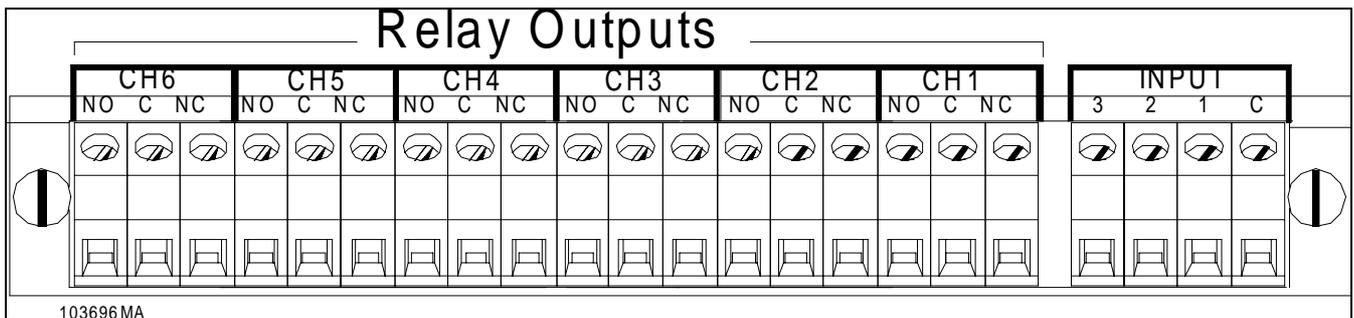

Figure 2-10 Digital I/O Connections
A. Digital I/O Terminal Block - A terminal block, as shown in Figure 2-10, is provided for the six-alarm output, Potential Free, Form C, connections: normally open (NO), common (C), and normally closed (NC), and the three digital inputs which share a common. The relay contacts are capable of switching 250 V~ at 1 Amp or 30 VDC at 1A.